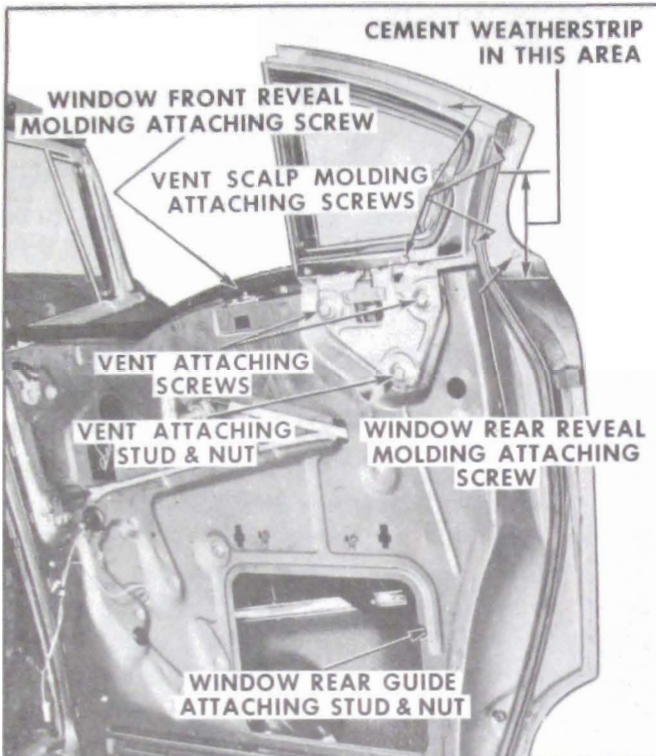

Figure 13-223—Removal of Rear Door Window Ventilator
2. Remove window front reveal molding rear attaching screw, at location indicated in Fig. 13-223. Remove rear reveal molding attaching screw, shown in Fig. 13-223; then lift rear of molding sufficiently to disengage from ventilator casting and remove molding from door. Lift rear end of front reveal molding sufficiently to remove screw securing door outer panel to ventilator assembly.
3. Remove door weatherstrip tab attaching screw at top rear of ventilator. Disengage weatherstrip tab from under scalp molding and detach weatherstrip from ventilator assembly. (See Fig. 13-223.)
5. Remove window rear guide lower attaching stud and nut, at location indicated in Fig. 13-223. Remove ventilator attaching screws and stud and nut, shown in Fig. 13-223.
1. “IN OR OUT” adjustment of ventilator assembly — Remove door trim assembly. Loosen ventilator attaching screws and stud nut. Adjust stud “in or out”, as required; then tighten stud nut and attaching screws. (See Fig. 13-223.)
2. “UP OR DOWN” and/or “FORE OR AFT” adjustment of ventilator assembly — remove door trim assembly and inner panel water deflector. Remove window front reveal molding rear attaching screw, at location indicated in Fig. 13-223. Remove rear reveal molding attach-
ing screw and remove molding from door. Lift rear end of front reveal molding sufficiently to remove screw securing door outer panel to ventilator assembly. Loosen ventilator attaching screws and stud nut, and window rear guide attaching stud nut. Position ventilator assembly “up or down” and/or “fore or aft”, as required; then tighten ventilator stud nut and attaching screws; tighten window rear guide attaching stud nut. Install screw securing door outer panel to ventilator assembly and install door window rear reveal molding and front reveal molding attaching screw. (See Fig. 13-223).
3. **OPENING AND CLOSING EFFORT** — the effort required to open or close the ventilator can be increased or decreased by binding up tabs on tab washer and tightening or loosening nut “A”, shown in Fig. 13-223.